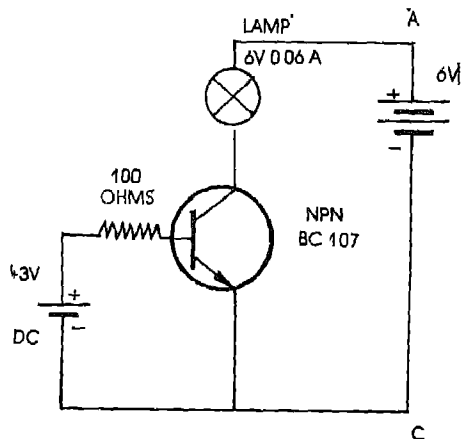

Fig. 7.1
1. Connect the circuit as shown in Fig. 7.1